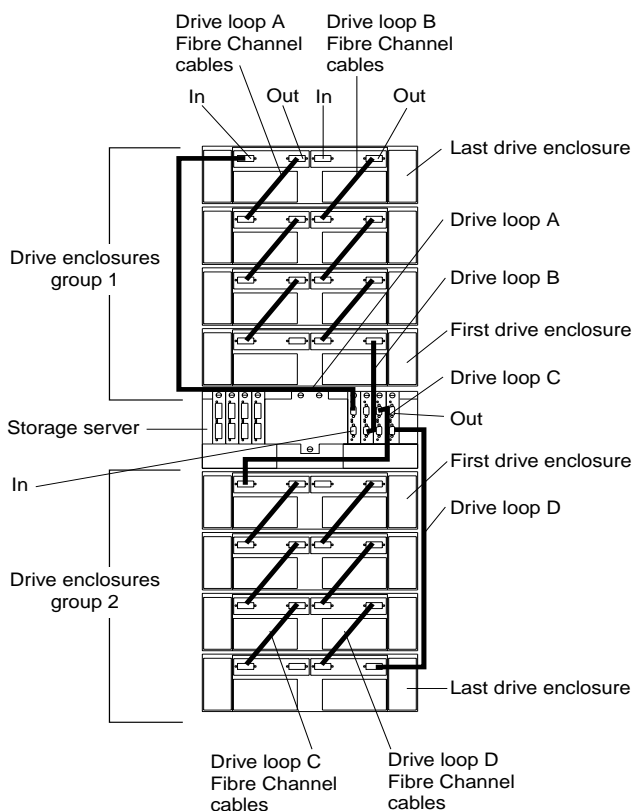

Figure 34. Connecting two redundant drive enclosure groups
3. Connect drive loop C to the FAStT700 Storage Server, as shown in Figure 34.
4. Connect drive loop D to the FAStT700 Storage Server, as shown in Figure 34.